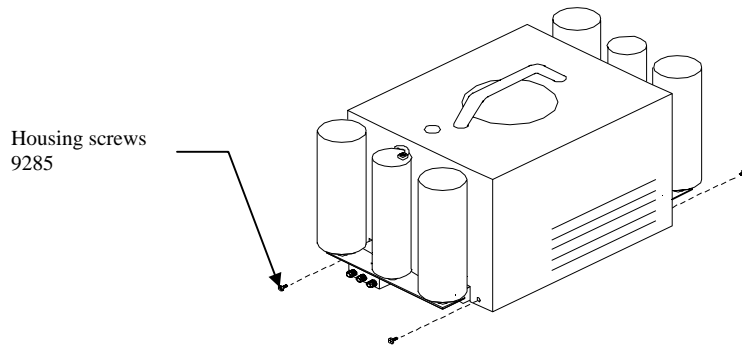

Figure 5
- Servicing of the air intake filter requires the removal of the housing assembly. The housing assembly can be removed by unscrewing the four (4) screws that attach the housing to the frame. Two screws are located on each side of the compressor behind the storage tanks (figure 5). After removing screws, pull housing assembly straight up being careful not to damage the foam on the inside.